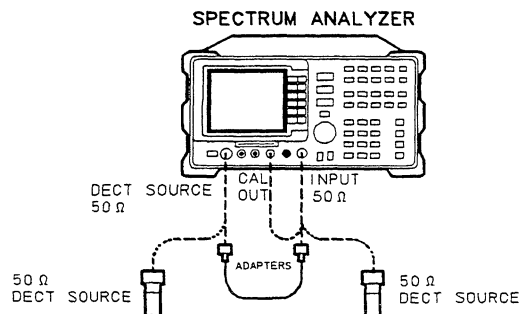

Figure 9-6. Tracking Generator Feedthrough Test Setup
1. Connect the 23 cm BNC cable between the DECT SOURCE 50 Ω and INPUT 50 Ω connectors on the spectrum analyzer, using the N(m) to BNC(f) adapters. Refer to Figure 9-6.